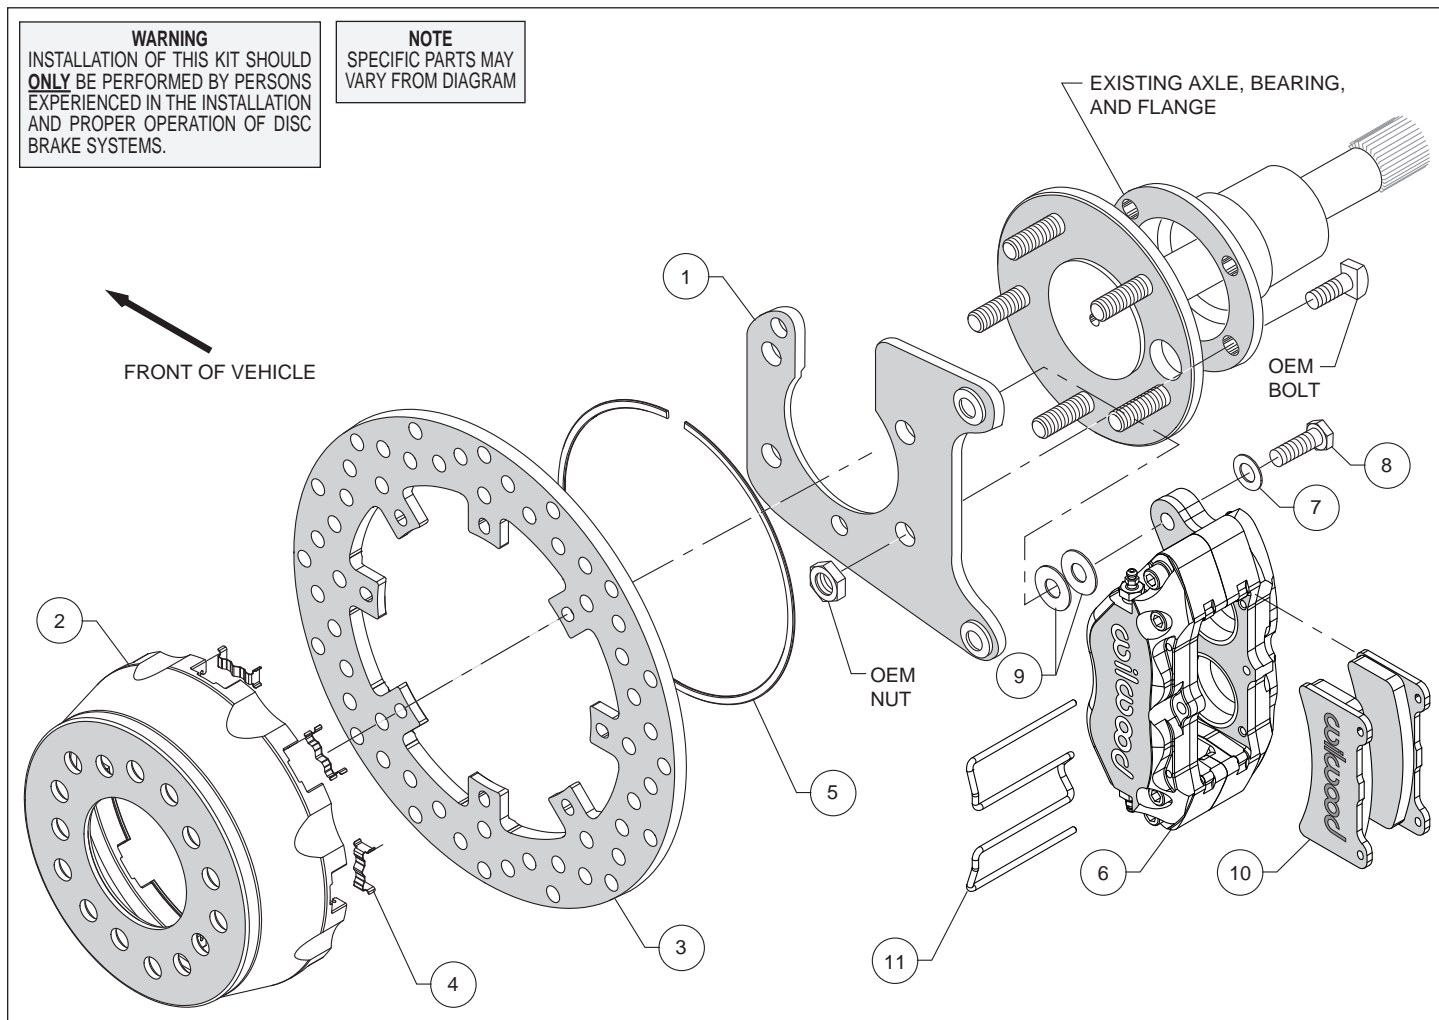

Figure 1. Typical Installation Configuration
**Assembly Instructions** (numbers in parenthesis refer to the parts list and Figure 1 on the preceding pages): **CAUTION:** All mounting bolts must fully engage clinch nuts. Be sure to check that all bolts are either flush or protruding through flanged side of clinch nut after shimming, Figure 5.
- Install the caliper mounting bracket (1), with the slot for the axle pointing upward, to the housing flange using the OEM bolts and nuts, as shown in Figure 1 and Photo 1. Ensure that the heads of the clinch nuts are facing outboard, Photo 1. Apply red *Loctite*® 271 to the OEM bolt threads and torque to OEM specifications.
- Insert the dynamic mount wear plates (4) into the slots in the hat (2) making sure the tabs snap in place, Photo 2. Orient the rotor (3) as shown in Figure 1 and Photo 3, with the flush mount tab side facing the hat. Attach the rotor to the hat using snap ring (5) by pushing down on the rotor and installing the ring into the groove in the hat, as shown in Photo 4. Ensure that the ring is fully engaged in the groove.
- Align the correct hole pattern in the hat (2) with the axle stud pattern and slide the hat/rotor assembly onto the axle hub. **NOTE:** The hat must fit flush against the axle flange or excessive rotor run out may result. Install three lug nuts (finger tight) to keep the hat/rotor in place while continuing with the installation. **NOTE:** Some OEM and aftermarket axles come with stud sizes larger than 0.50" diameter. Verify stud size, and if necessary, have a qualified machine shop drill the hats to the correct size.
- NOTE:** Please reference the caution statement at the beginning of the assembly instructions. Mount one caliper (6) onto the mounting bracket (1) using bolts (8) and washers (7), as shown in Figure 1. Initially place two .035" thick shims (9) on each bolt between the caliper and the bracket, Photo 5. Temporarily tighten the mounting bolts and view the rotor (3) through the top opening of caliper. The rotor should be centered in the caliper, Photo 6. If not, adjust the caliper by adding or subtracting shims between the bracket and the caliper. Always use the same amount of shims on each of the two mounting bolts. **NOTE:** The end of each bolt must be flush with or slightly protruding from the head of the clinch nut. If necessary, place spare shims between washer and caliper mounting ear to achieve the proper clinch nut engagement, as shown in Figure 5. Once the caliper alignment and clinch nut engagement are correct, remove the bolts one at a time, apply red *Loctite*® 271 to the threads, and torque to